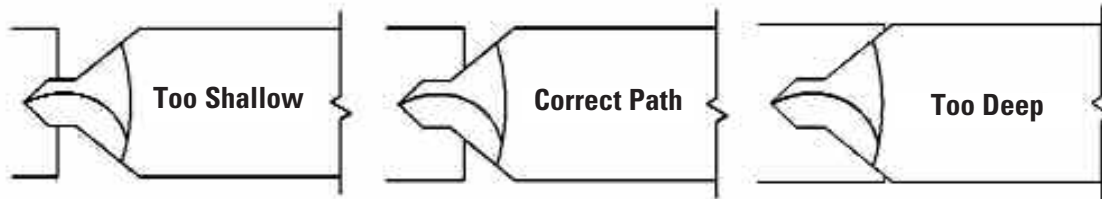

Figure 10.6 The correct depth of center is illustrated above. If it's too deep (bottom), only sharp outer edges will contact the center.
If a combination drill is not available, you can drill centers with a small drill and countersink them with a drill of sufficient diameter ground to a 60° point. A 60° taper is standard for lathe center points. Correct center depth is given in Figure 10.6. Take care to get an accurate 60° countersink in the center (Figure 10.7).
- 3.** Revolve the spindle slowly with your left hand while holding a piece of chalk until the chalk touches the high point (the nearest surface) of the work (Figure 10.6).